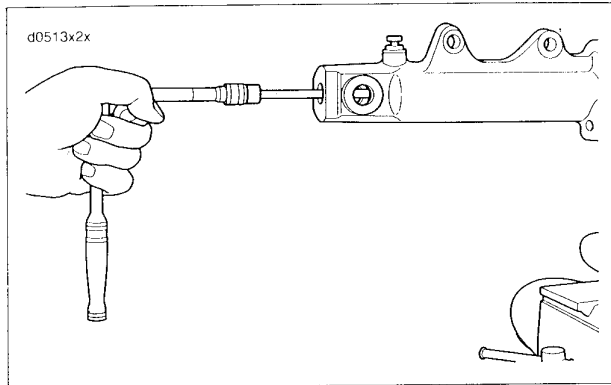

Figure 2-92. Socket Head Bolt
- See Figure 2-92. Remove the socket head bolt.
11. See Figure 2-92. Hold slider in vise taking precautions to avoid damage. Install damper tube into the fork tube. Tighten socket screw and washer. Torque to 22-29 ft-lbs (29.8-39.3 Nm).